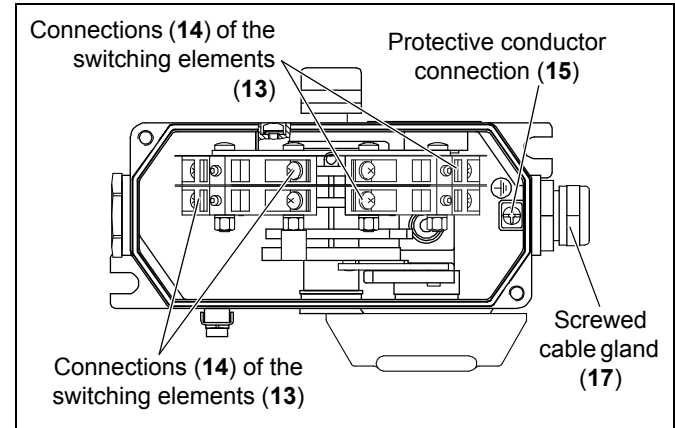

Fig. 5-11: Connecting the switch and protective conductor
3. Loosen the nut on the screwed cable gland (17) and thread the connection cable (Ø 11.5 mm to Ø 15.5 mm) through it (see fig. 5-11).
4. Connect the protective conductor (max. 2.5 mm²) to the provided connection (15) (see fig. 5-11).
5. Connect the conductors to the connections (14) of the switching elements (13) as described in the connection diagram inside the cover (12) of the pull-rope emergency stop switch (see figures 5-11 and 5-12).
6. Tighten the nuts of the screwed cable gland (17) with a **tightening torque of 6.7 Nm**.
10. Connect each potential equalization conductor with a cross-section of 4 mm² to the potential equalization connections (26) on the cover (12) and the casing (25) (see fig. 5-11).